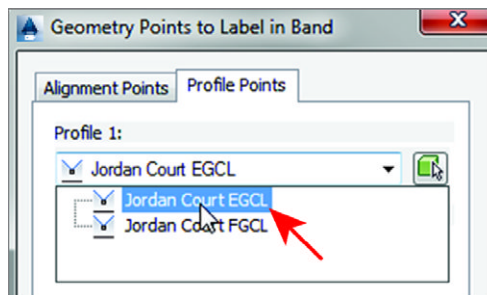

FIGURE 8.4 Assigning Jordan Court EGCL as Profile 1
6. In the *Geometry Points To Label In Band* dialog box, on the *Profile Points* tab, select *Jordan Court EGCL* as *Profile 1*, as shown in Figure 8.4. Click *OK*.